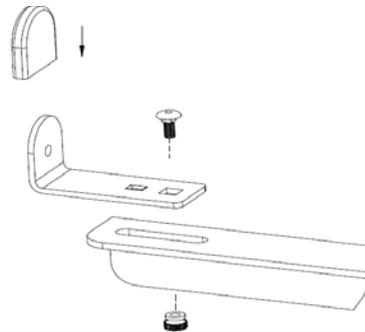

Fig. 3
2. Put L-bracket cap on L-bracket, then attach an L-bracket to each end of the three black angle-iron cross pieces. Slide the bracket to adjust and secure with the bolt and thumb nut. (See figure 3.)